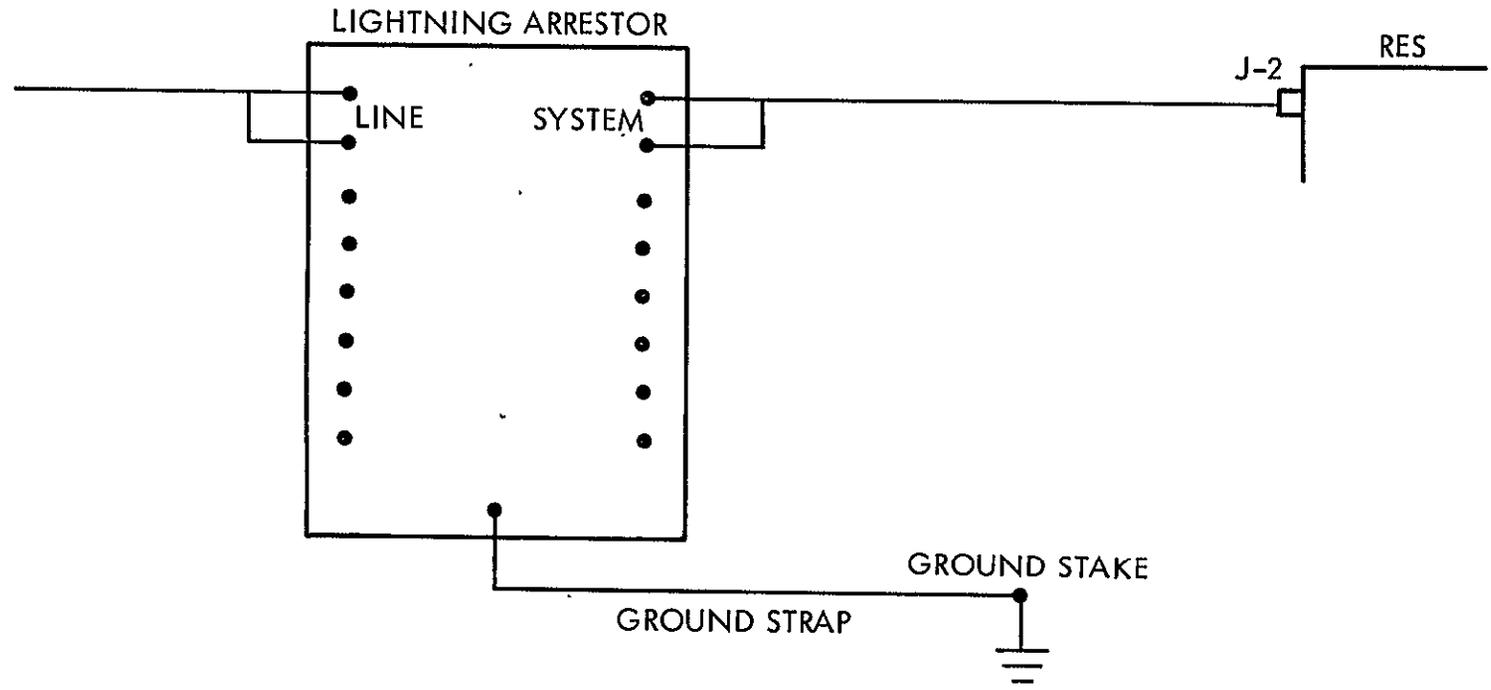

Fig. 7. Array landline installation
- 1) Attach the 3-ft ground strap to the lightning arrestor ground stud and the array ground stake (Fig. 7).